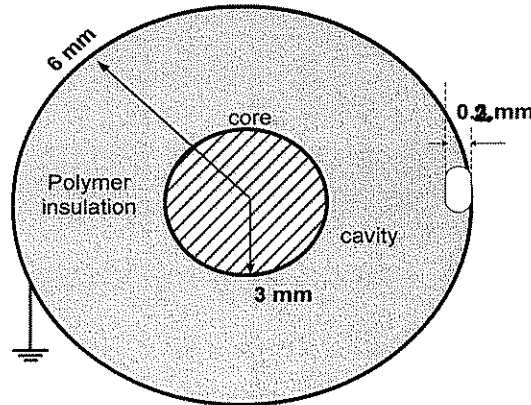

Figure 2: An air filled cavity trapped in insulation between coaxial electrodes
- d) A coaxial cable is shown in cross-section in Figure 2. The insulation consists of polyethylene tape 0,3 mm thick.